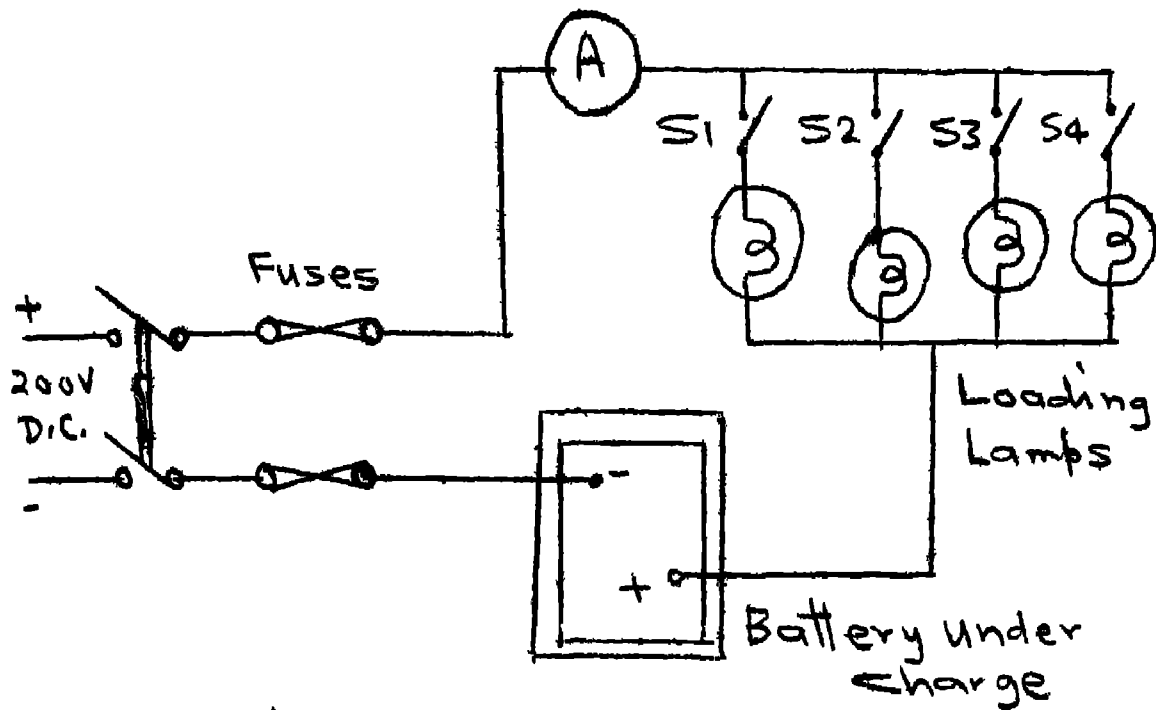

Fig. 1 Connection of one Battery
5. Connect the battery to the supply through lamps or resistance and ammeter as shown in the figure 1, (keep all the switches off).